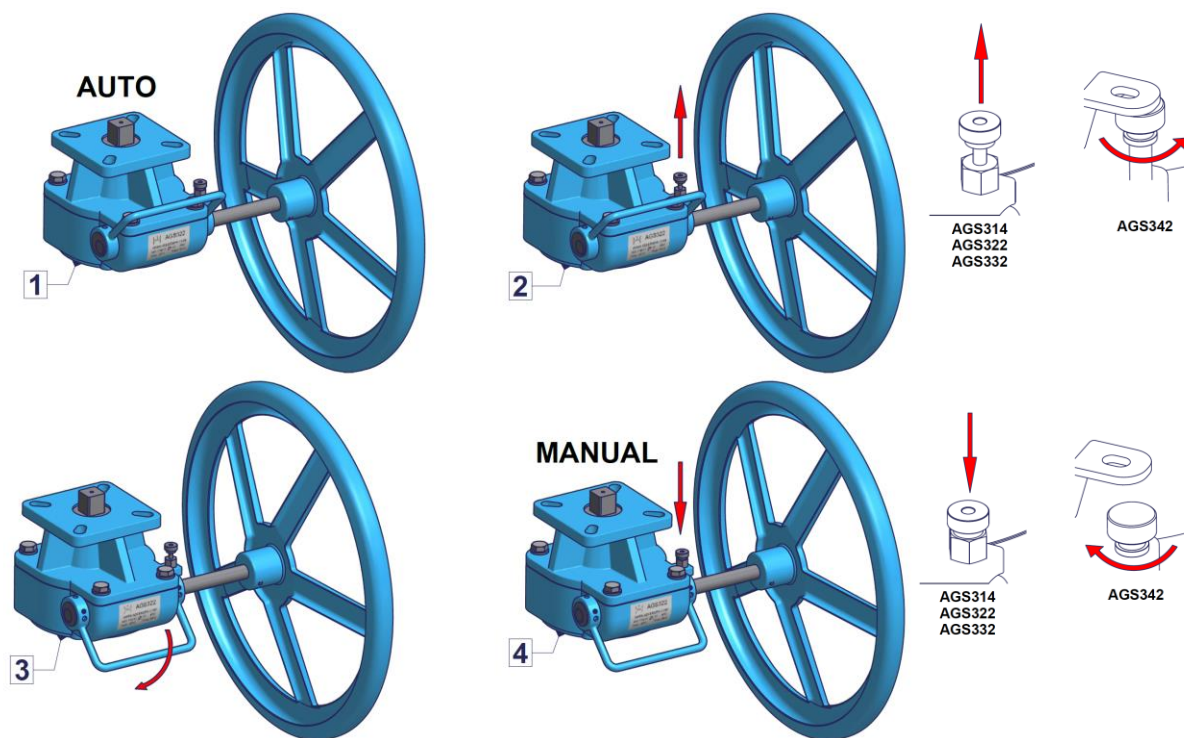

FIG. 3 GEARBOX OPERATIVITY
The declutchable gearbox AGS is standard delivered in automatic mode: control handle (21) in AUTO position and valve operated by the actuator (fig. 3-1). To achieve the manual operating of the gearbox, follow the next points looking the fig.3: